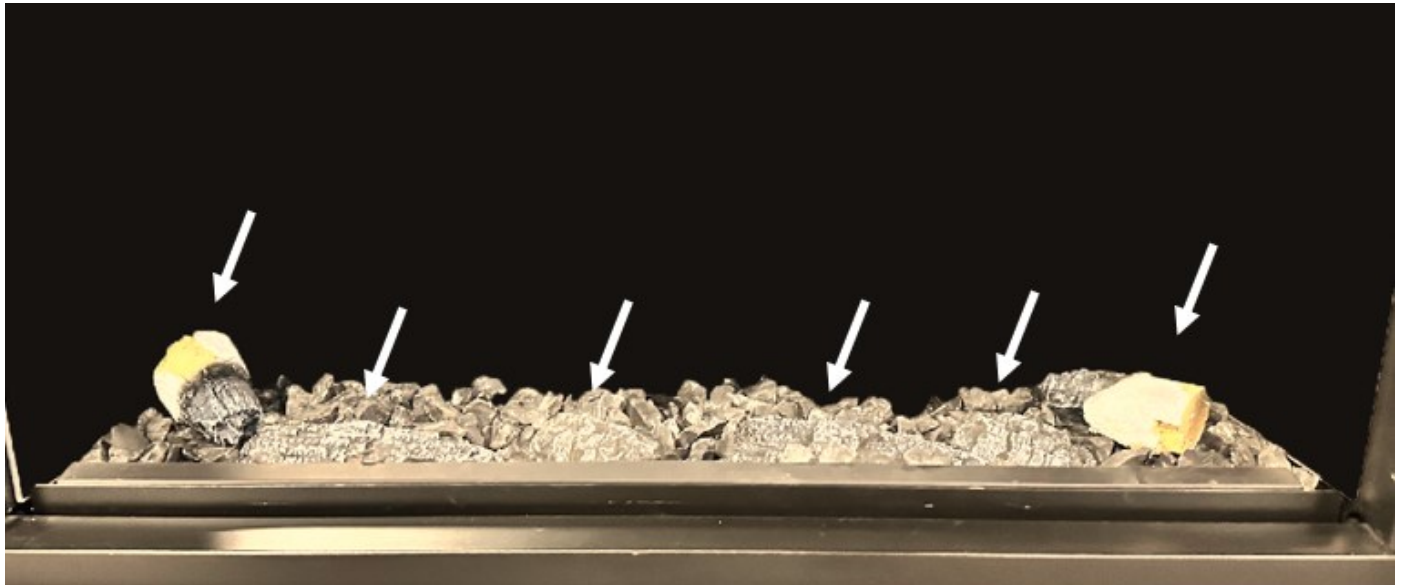

Figure 4.2 - Base logs.
- Figure 4.2 shows the (4) charred logs installed. These are positioned in front of the pulsating ember bed LEDs. The two bark and char logs are on both sides of the fireplace.